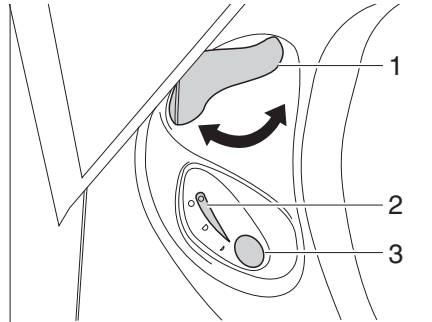

Fig. 353 Operating unit Thetford toilet
- Before flushing open the sliding trap of the Thetford toilet. To do this, turn the slide lever (Fig. 353,1) in an anticlockwise direction.
- For flushing, press the blue flush button (Fig. 353,3).
- After flushing close the sliding trap. To do this turn the slide lever (Fig. 353,1) in a clockwise direction.
The indicator lamp (Fig. 353,2) goes on whenever the Thetford cassette has to be emptied.
- Turn the slide lever (Fig. 353,1) in a clockwise direction. The sliding trap is closed. To empty, the sliding trap in the Thetford toilet **must** be closed.